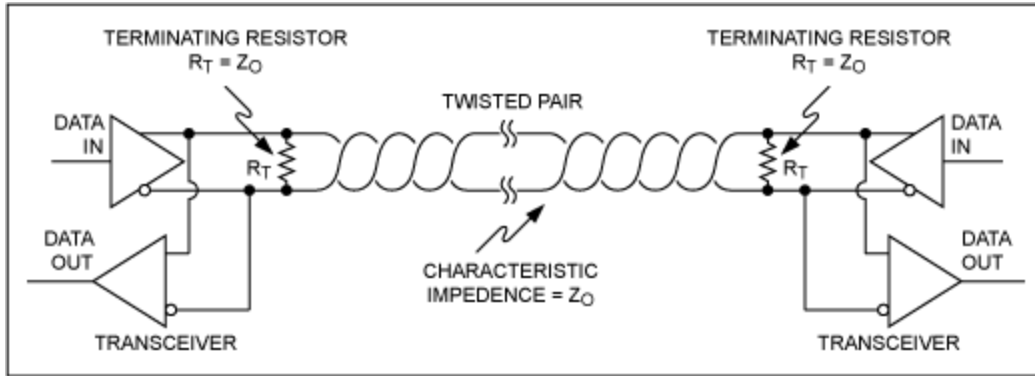

Figure 8. A two-transceivers RS-485 network.
**Figure 8** shows a two-transceivers network.